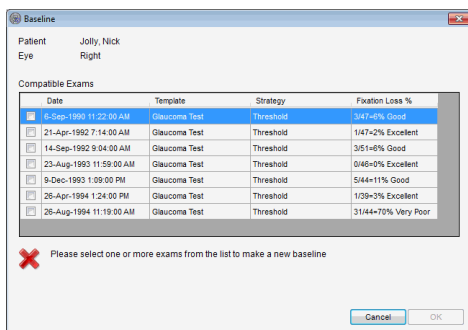

Figure 38 Defining a baseline
2. **Manually create a baseline exam**; this will display the Baseline dialog box, allowing the user to select the desired exams from a list of compatible exams, as per Figure 38.